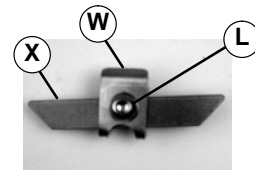

Figure 9
- 7c. Pre-assemble mounting clips (W of Figure 9), guard plates (X) and screws (L).